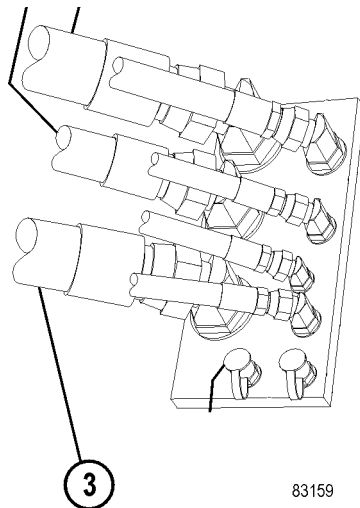
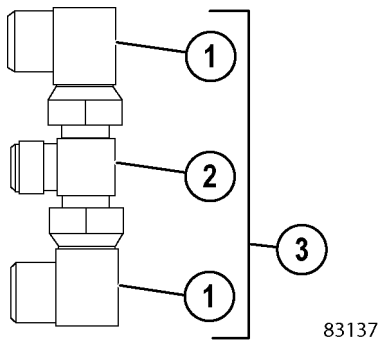

FIGURE 10-5. REAR AXLE BRAKE LINES
FIGURE 10-6. FITTING ASSEMBLY
Special hydraulic system flushing tools for the 930E truck have been released. Hoist system bypass blocks (PC3074) and steering system flushing hose (XB5777) must be on-site before or during field assembly, so when the truck is started for the first time, the hydraulic system can be flushed and any debris can be removed from the hydraulic system. Fitting assembly (XB7075) shown as (3, Figure 10-6) will also be required.
10. At the rear axle housing, connect brake cooling lines (1, 2 & 3, Figure 10-5) together using fitting assembly (3, Figure 10-6). Cap the three open fittings on the axle housing with clean caps. Several hose clamps may have to be removed to connect the three hoses to the fitting assembly.